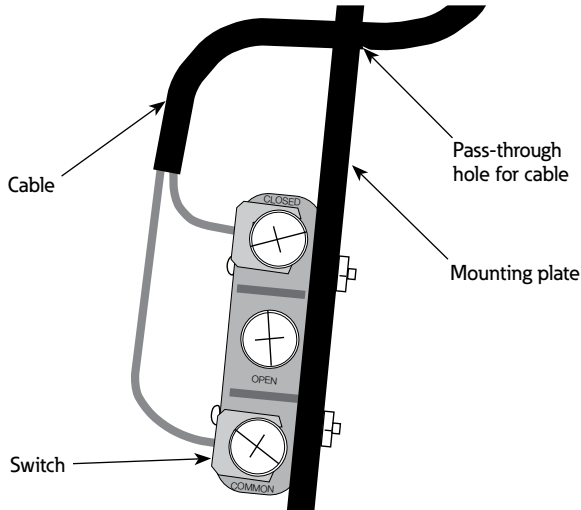
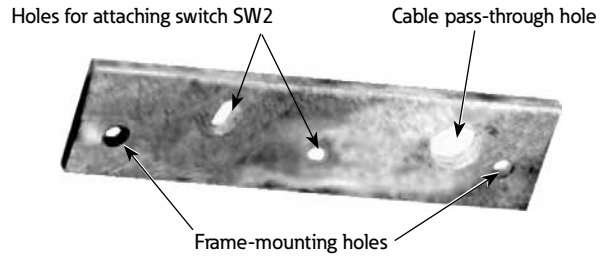

Figure 12. Switch SW2 mounted with cable routed through mounting plate.
Figure 13. Kit mounting plate for switch SW2.
1. Attach leads from one end of kit's longer cable (Item 8) to the two outer switch terminals marked COMMON and CLOSED (Figure 12).
2. Pull cable through hole in mounting plate (Item 7) (Figure 12).
3. Attach switch SW2 to new mounting plate (Figures 12 and 13). Use the hardware removed from original switch SW2 to attach switch through plate's oblong and small middle holes (Figure 13). Do not tighten hardware at this time. Leave switch slightly loose for future adjustment.